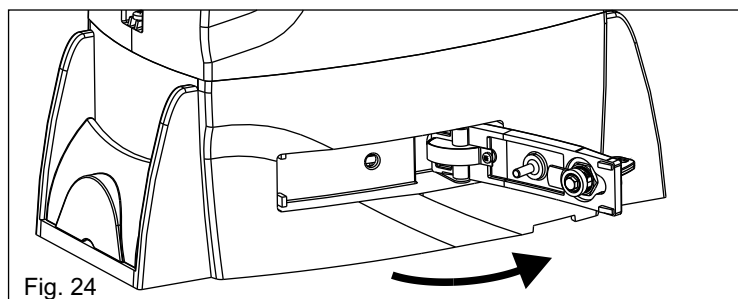

Fig. 24
- Pull the release lever until it stops, about 90° (Fig. 24).